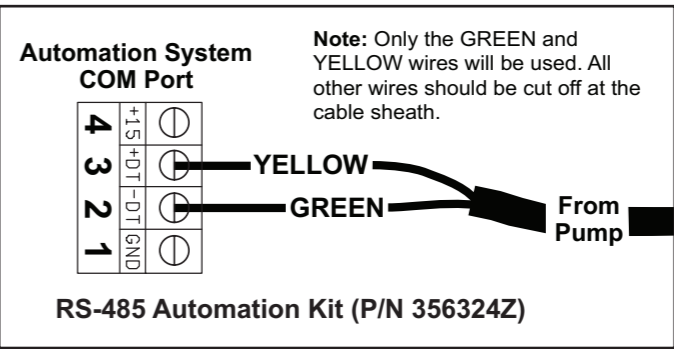

Figure 10
Only the GREEN and YELLOW conductors will be used to wire the pump for external control via RS-485. See Figure 10 below.
6. Connect YELLOW and GREEN conductors to the control system as shown in Figure 10.